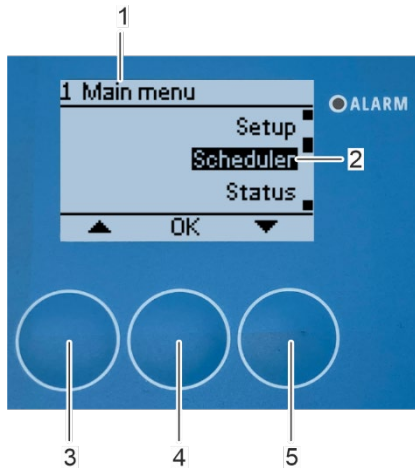

Fig. 153: Open "Scheduler" submenu
1. Select the "Scheduler" submenu (Fig. 153/2) in "1 Main menu" menu (Fig. 153/1) with the arrow keys *[up]* (Fig. 153/3) and *[down]* (Fig. 153/5).
2. Confirm the selection with *[OK]* (Fig. 153/4).